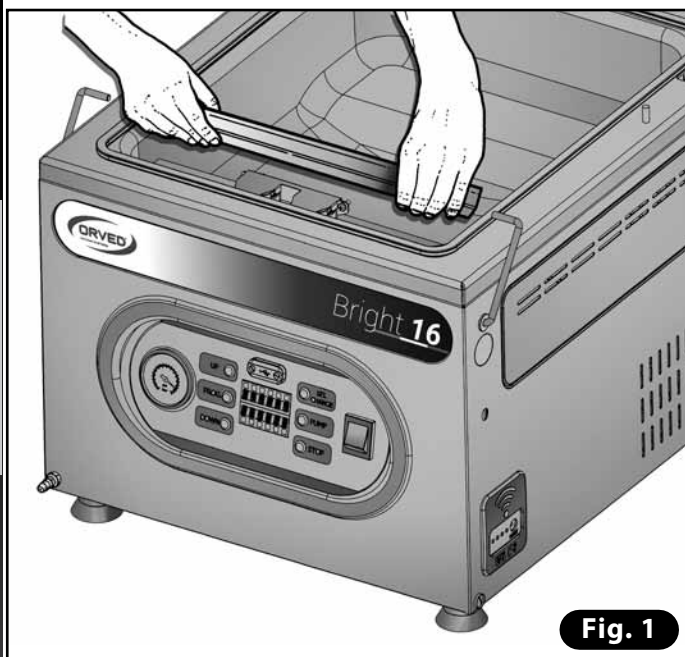

Fig. 1
- 1) Extract the sealing bar by lifting it horizontally at both ends (**Fig. 1**).